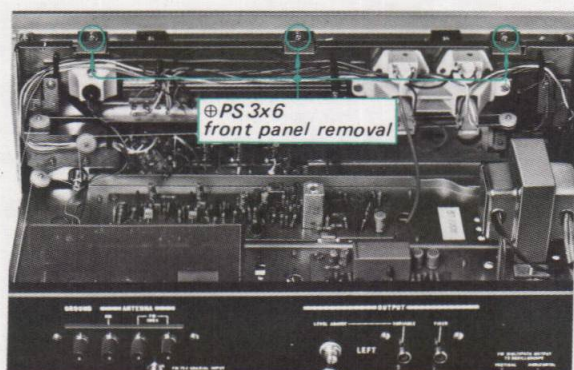

Fig. 2-3. Front panel removal
3. Remove the three screws securing the front panel to the front subchassis from the back as shown in Fig. 2-3. This frees the front panel.